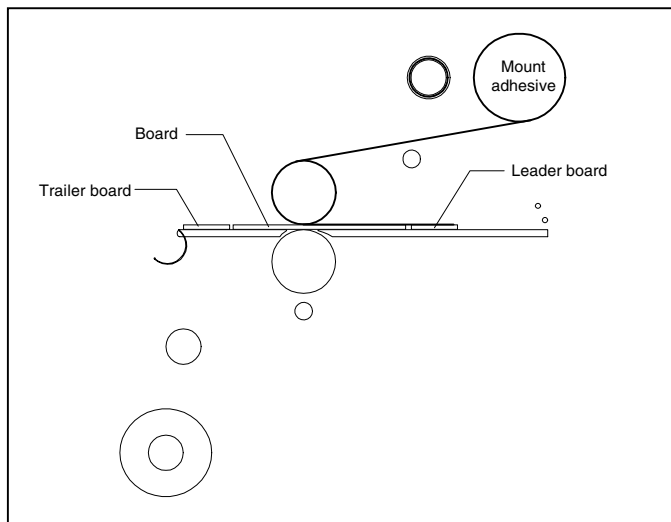

Fig. 31
**TIPS FOR PRE-COATING BOARDS (Figure 31)**
1. Load the laminator as illustrated in Figure 31.